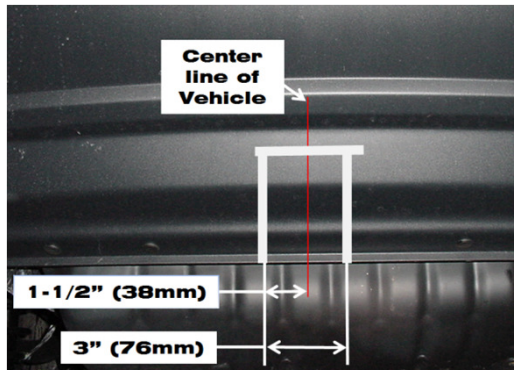
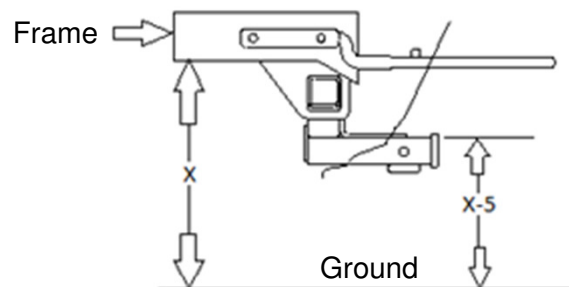

Figure 3
Figure 4
Jeep Patriot and Compass models 2011 and later. Fascia trimming is required for hitch installation. See Figure 3 and Figure 4 for fascia trimming diagrams. Obtain vehicle owners approval before cutting.
**** 2011 model** has 2" vertical fascia trim (measured from the bottom of the fascia lip). Mark fascia with non-permanent marker. Re-confirm fascia cut height by using figure 4 procedure and mark height from ground on fascia. Cut the lower of the two marks.